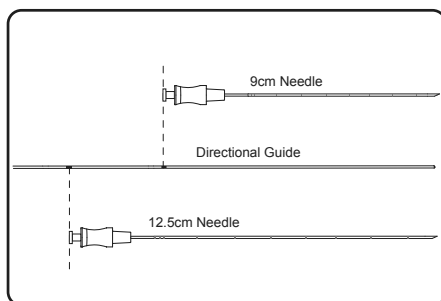

Figure 8. Insert the directional guide until the appropriate depth marker is aligned with the hub of the foramen needle
- Insert the directional guide into the foramen needle, aligning the appropriate depth marker on the directional guide with the top of the foramen needle (**Figure 8**).